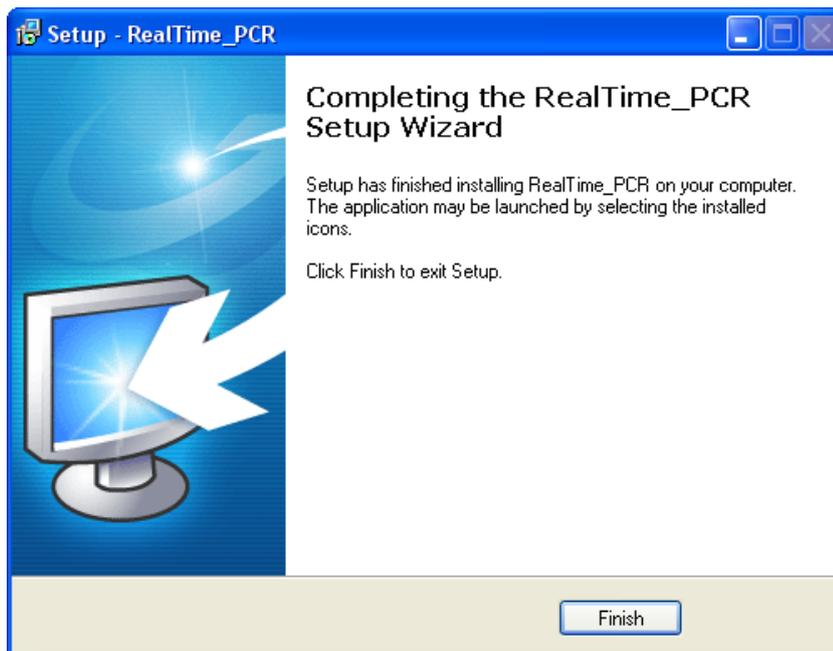

Fig.18. Completed operation of the RealTime_PCR installation wizard
- After the installation is completed you will see following window (Fig.18). Click  to quit the Setup Wizard.